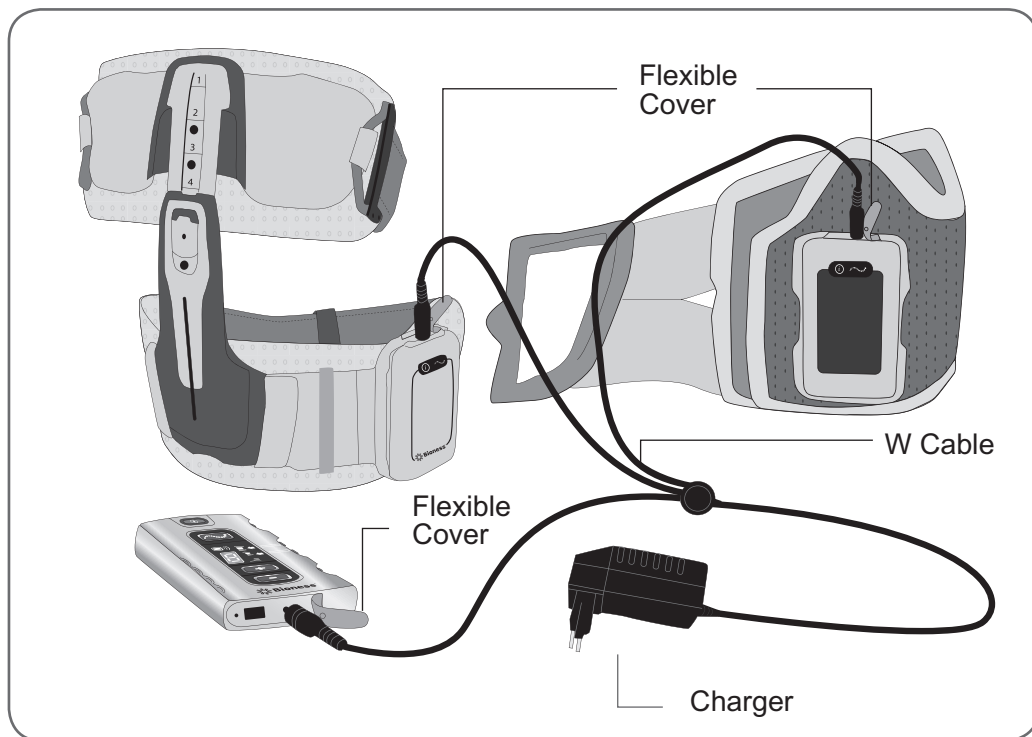

Figure 9-3: Charging setup.
2. Open the flexible covers over the charging ports. See Figure 9-3.
3. Connect the W cable to the charging ports. See Figure 9-3